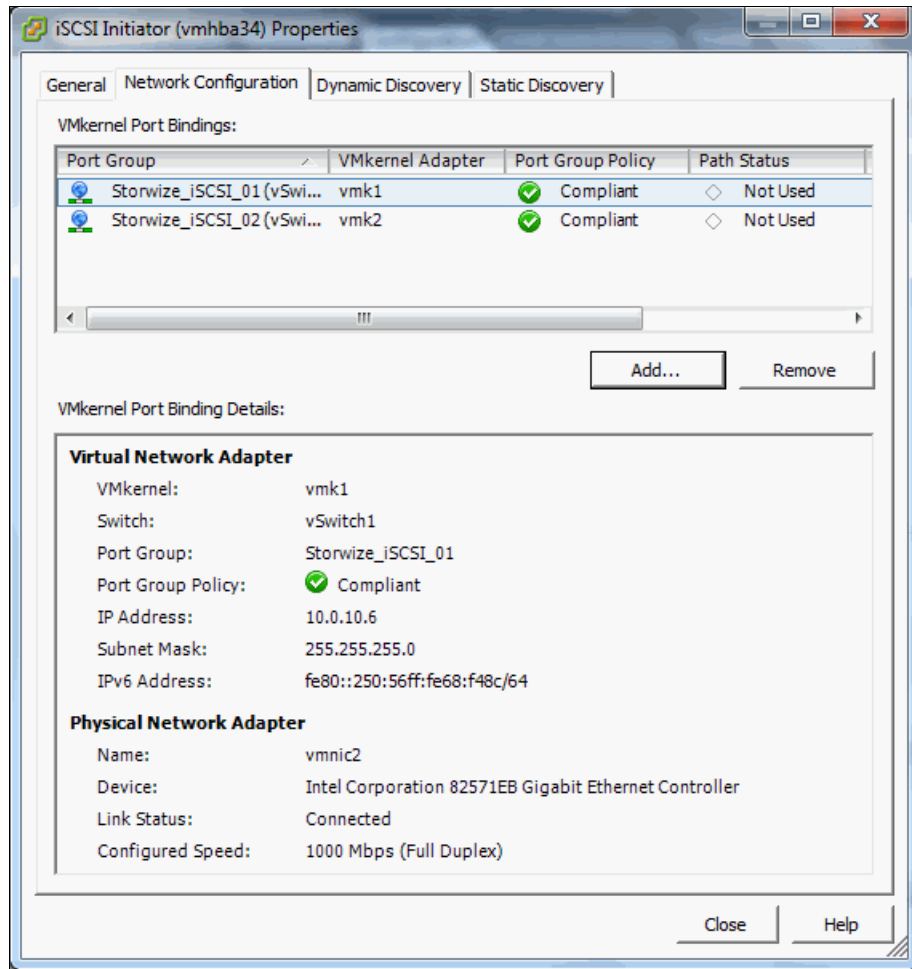

Figure 4-26 The VMkernel ports added to the iSCSI Adapter
15. The **Network Configuration** tab should now look like Figure 4-26. Click **Close** to finish binding the VMkernel ports.